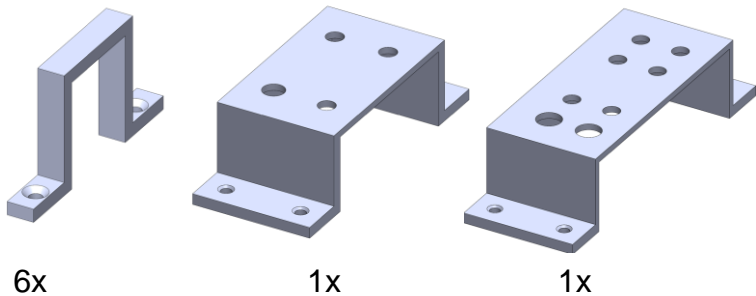

Fig 1
- 1. Step 1: Screw the 3D printed parts (Fig 1) in their desidered position onto the board;